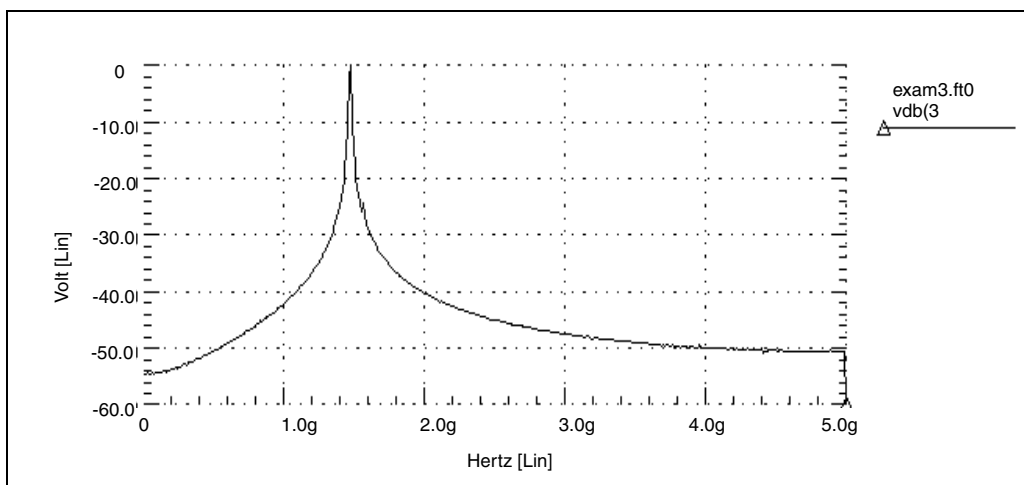
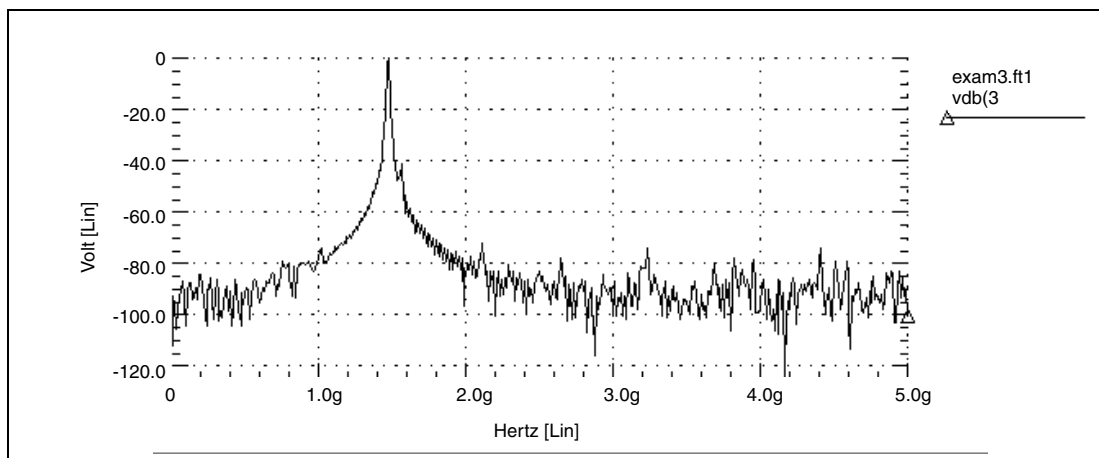
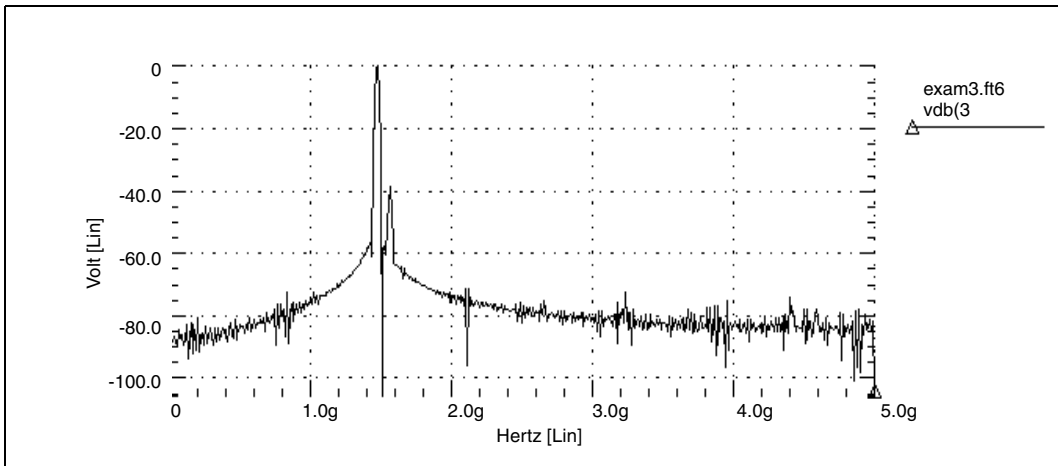
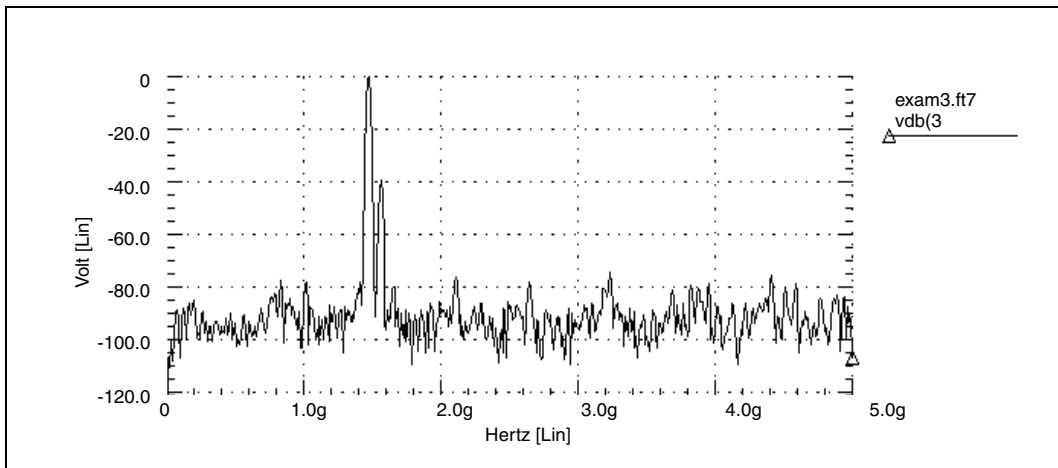

Figure 74 Mixer Output Spectrum, Rectangular Window
Figure 75 Mixer Output Spectrum, Bartlett Window
Figure 80 Mixer Output Spectrum, Gaussian Window
Figure 81 Mixer Output Spectrum, Kaiser-Bessel Window
Figure 74 shows the rectangular window. Compare this with the spectra of the output for all FFT window types, as shown in Figure 75 through Figure 81. Without windowing, HSPICE does not detect the weak signal because of spectral leakage.
- In the Bartlett window (Figure 75), the noise floor increases dramatically, compared to the rectangular window (from -55, to more than -90 dB).
- The final two windows (Figure 80 and Figure 81) use the $ALFA=3.0$ parameter, which is the default value in HSPICE. These two windows also produce acceptable results, especially the Kaiser-Bessel window, which sharply separates the two tones, and has a noise floor of almost -100-dB.